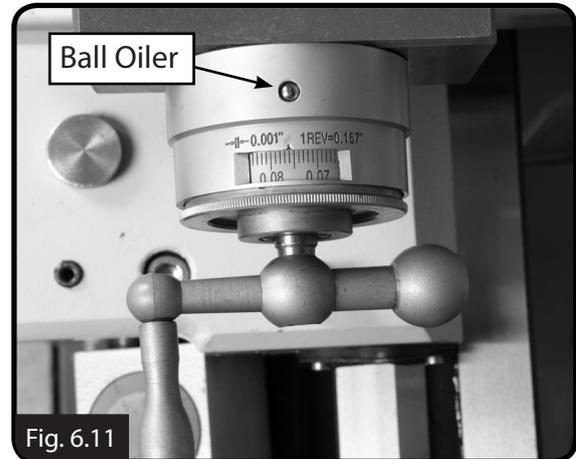

Fig. 6.11
- Compound-rest leadscrew & slides (Fig 6.11)